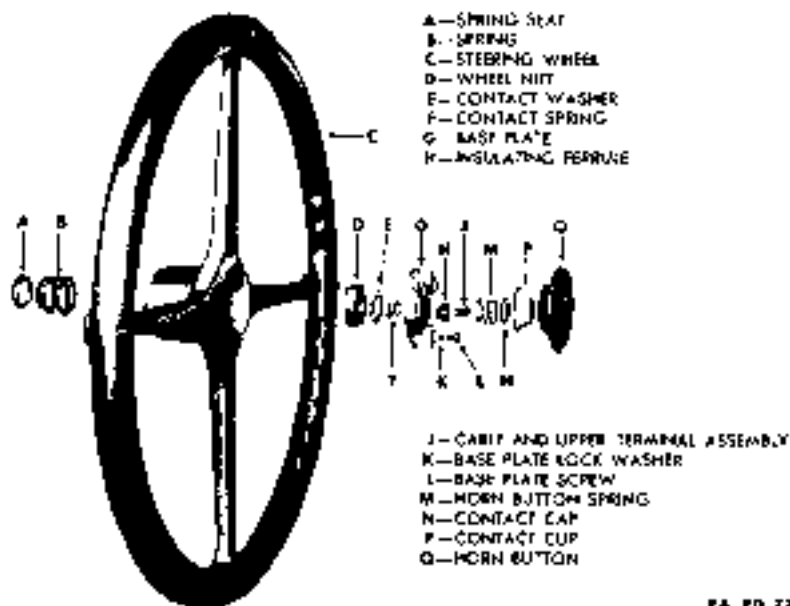

Figure 88 — Steering Wheel Assembly Disassembled
**141. STEERING WHEEL** (fig. 88).